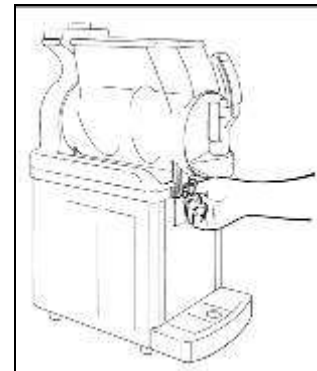

**Fig. 13**
- Empty the bowl and repeat the same operations until the coming out water is clear (fig.13).